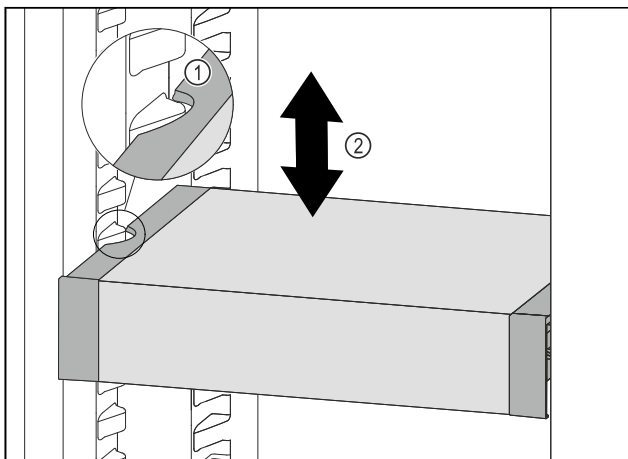

Fig. 201
- ▶ Pull VarioSafe forwards until the recesses in the side of the VarioSafe are at the level of the support rib in the refrigerator compartment. Fig. 201 (1)
- ▶ Move VarioSafe up or down in the refrigerator compartment until the desired height is reached. Fig. 201 (2)